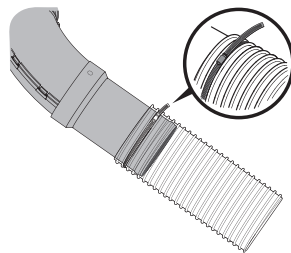

Figure 24
5. Install the upper chute and extension tube into the flexible hose extension as shown in Figure 24, positioning it over the wide adhesive rubber strip previously installed on the extension tube.
NOTE: Orient the hose clamp so that it aligns over the wide adhesive rubber strip previously installed on the chute extension tube, and the excess from the clamp points inward and down with the tightening screw facing outward. See the inset of Figure 24.